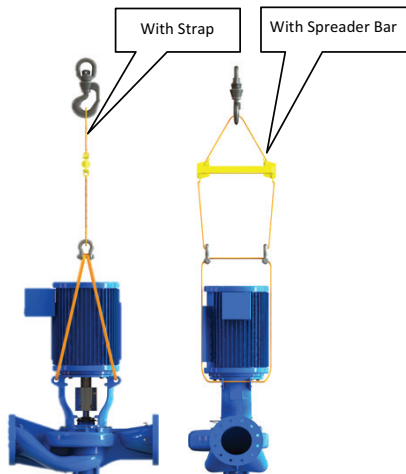
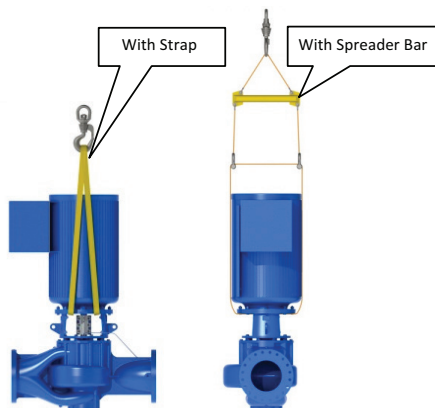

FIG. 3A
FIG.3B
- Handling, transportation and installation of this equipment should only be undertaken by trained personnel with proper use of lifting equipment. (Refer lifting arrangements "FIG. 3A & FIG. 3B")
- ii. Size 8x8x13.5 & 10x10x13.5: Use eye bolt or lifting lugs on motor bracket for lifting the entire unit as shown in the FIG.3A.
- iii. For Other Sizes: Place lifting straps/slings on each side of coupling through the motor bracket as shown in the FIG.3B.